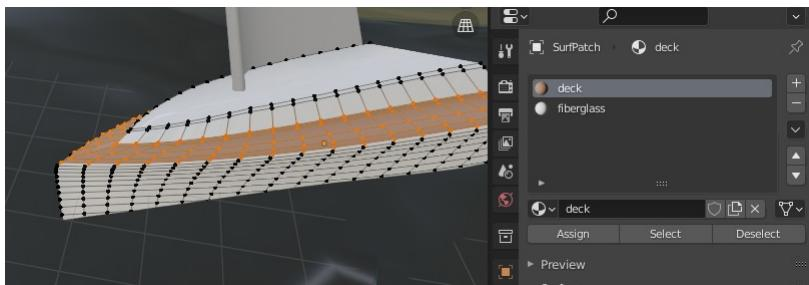

Figure 3-11 Assigning Materials to Vertices
18. You now need to assign a material to a selection of vertices. Still in Edit mode open the Material Properties tab then, if you have a Material Slot with a Material defined double-click and rename it “deck”. If there is no Material yet, add a new Slot then add a new Material and rename that. If you compare Figure 3-11 below with Figure 1-5 you will see that there is a line of buttons for assigning and selecting vertices by Material which is only visible in Edit mode. With the deck material selected in the list of slots, click **Assign** to associate the Material to the selected vertices.
20. Now create a different material to assign to the parts of the boats that are not deck. Add a new Material Slot and a new Material and rename it “fiberglass”. With your cursor back over the 3D Viewport select the cabin roof and hull by using **Select ▾ Invert**, however if you are in vertex selection mode as in Figure 3-11 this will leave a gap between the vertices selected for the deck and the fiberglass. So change to face selection mode, deselect all faces with **ALT-A** then in the Material Properties tab select the **deck** material and click **Select**. Now when you invert the selection there will be no gaps and you can select the **fiberglass** material and click **Assign** with the correct faces selected.